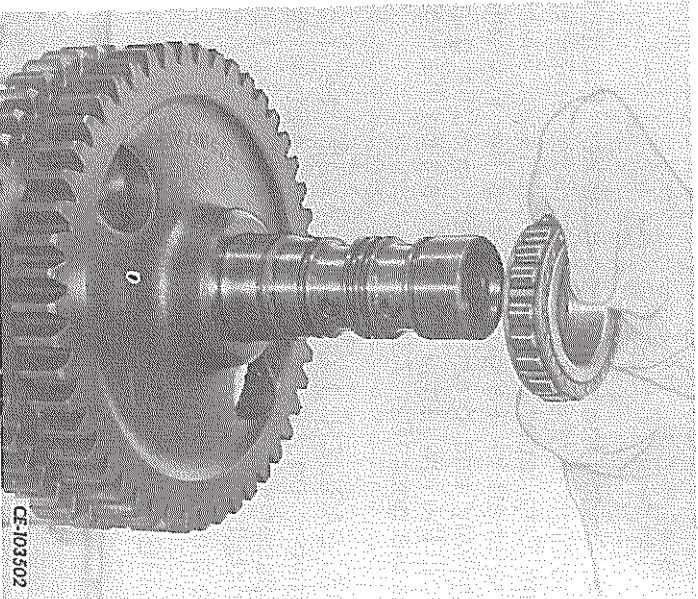

FIG. 68 – Installing the Front Bearing Inner Race
24. **REVERSE CLUTCH SHAFT:** Install the heated inner race of the bearing on the shaft (Fig. 68). Secure with the snap ring.